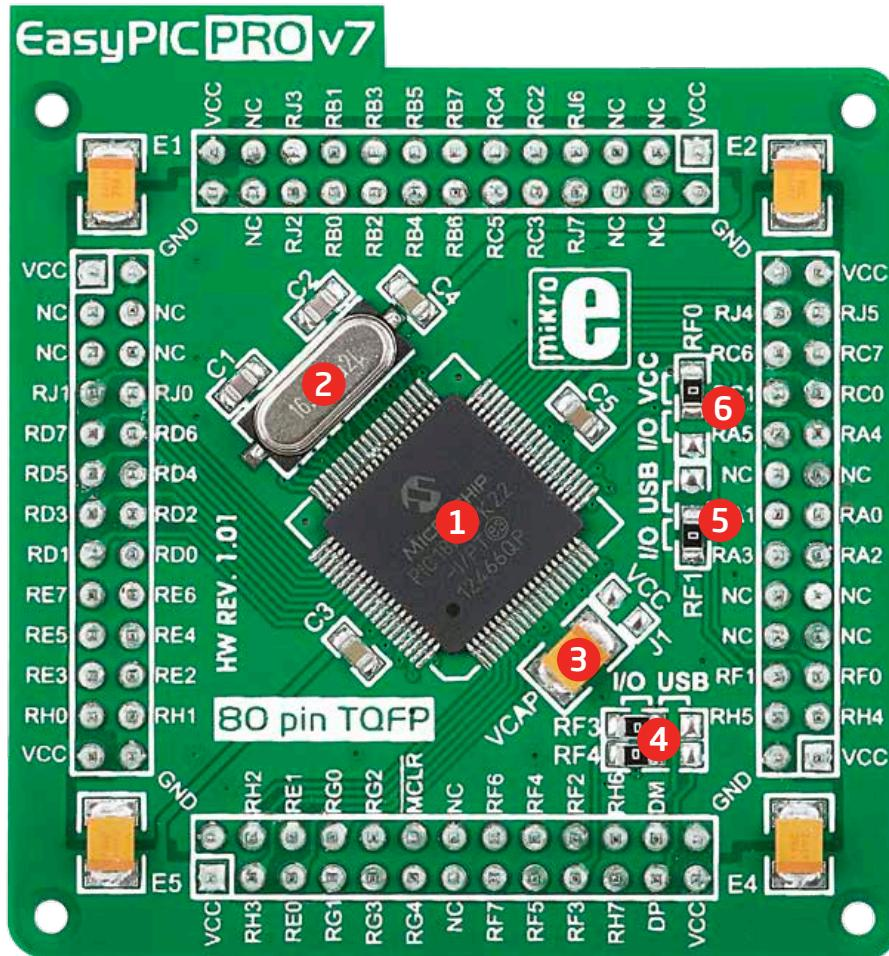

Figure 4-1: Default MCU card with PIC18F87K22
**Default MCU card** that comes with the EasyPIC PRO™ v7 package is shown on **Figure 4-1**. It contains **PIC18F87K22** microcontroller which is loaded with on-chip modules and is a great choice for both beginners and professionals. After testing and building the final program, this card can also be taken out of the board socket and used in your final device.